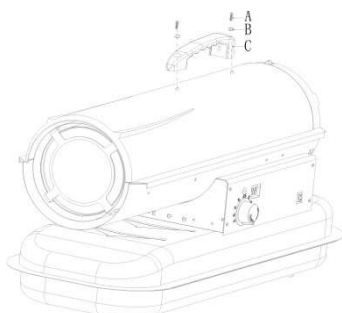

Fig.1
**CAC20KW:** the heater is only need to fix the plastic handle, no further operations required (see Fig. 1).